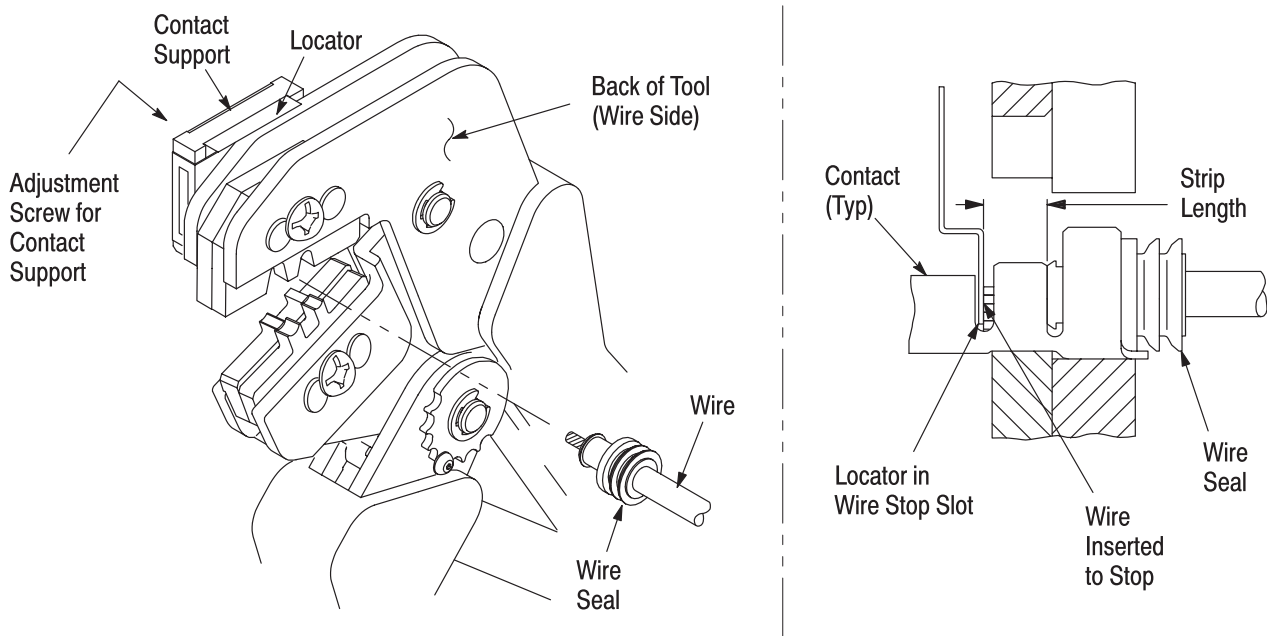

Figure 3
4. CONTACT SUPPORT ADJUSTMENT (Figure 3)
Refer to the table in Figure 1 and select wire of the specified size and insulation diameter. Strip the wire to the length indicated in Figure 1, taking care not to nick or cut wire strands. Select an applicable contact and identify the appropriate crimp section according to the wire size markings on the tool. Refer to Figure 3 and proceed as follows:
- Position the contact so that the mating end of the contact is on the locator side of the tool, and so that the open “U” of the wire and insulation barrels must face the top of the tool. Place the contact up into the nest so that the movable locator drops into the slot in the contact. Refer to Figure 3. Butt the front end of the wire barrel against the movable locator.
5. Insert stripped wire, with wire seal, into contact insulation and wire barrels until it is butted against the wire stop, as shown in Figure 3.
NOTE The crimped contact may stick in the crimping area, but the contact can be easily removed by pushing downward on the top of the locator (see Figure 3).